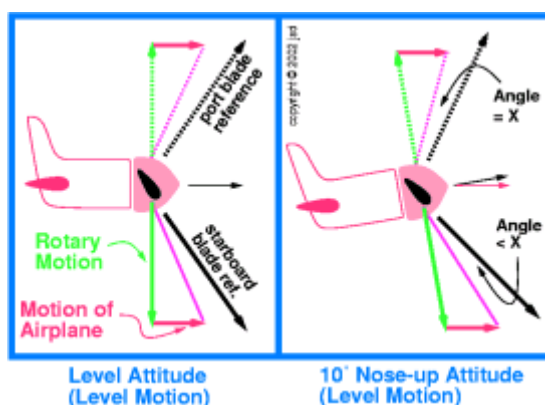

Figure 8.4: P-Factor and Angle of Attack
The correct analysis is shown in figure 8.4. As a point of reference, the left panel shows level pitch attitude in normal level flight, where no P-factor occurs. Meanwhile, the right panel shows the airplane in a 10 degree nose-up attitude (still in level flight). Since we want to discuss angle of attack, I have attached a "reference line" pointer to each of the blades, just like the reference line used in section 2.2. The angle of attack of the propeller blade is just the angle between the reference line and the blade's motion through the air.⁴
blade has a slightly greater angle of attack (compared to the upgoing blade) as shown in figure 8.4. This occurs because the vector representing the airplane's motion has "better leverage" when it meets the resultant, because the resultant is shorter and because it is more nearly perpendicular to the airplane's motion.
1. At low speeds, the airplane's forward velocity (as represented by the horizontal red arrow in figure 8.4) is so small that it can't have much effect on anything.
3. At very high speeds, when you are going fast enough to over-run the geometric pitch of the propeller (so that the resultant coincides with the reference line in figure 8.4), you might think that a small difference in angle of attack would be a 100% effect. I suppose that's true, but in this case the total thrust is practically zero, and 100% of nothing is nothing.